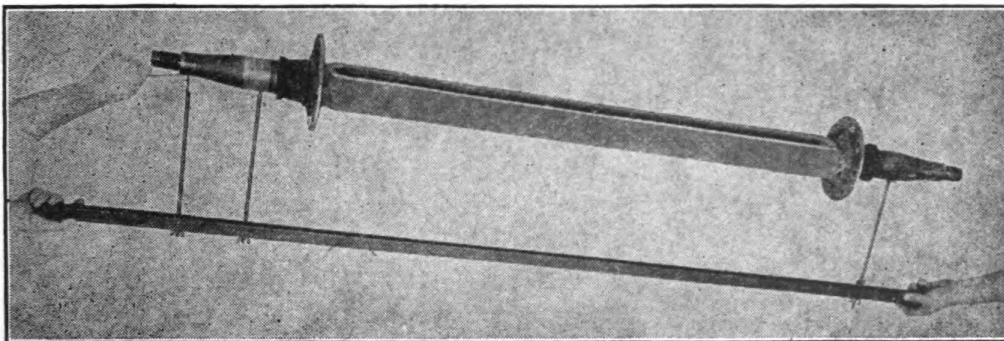

FIGURE 19. CHECKING AXLE FOR BEND.
8. **CHECKING AXLE FOR BEND** (Fig. 19).—Procedure for checking either dolly or semi-trailer axle is identical.